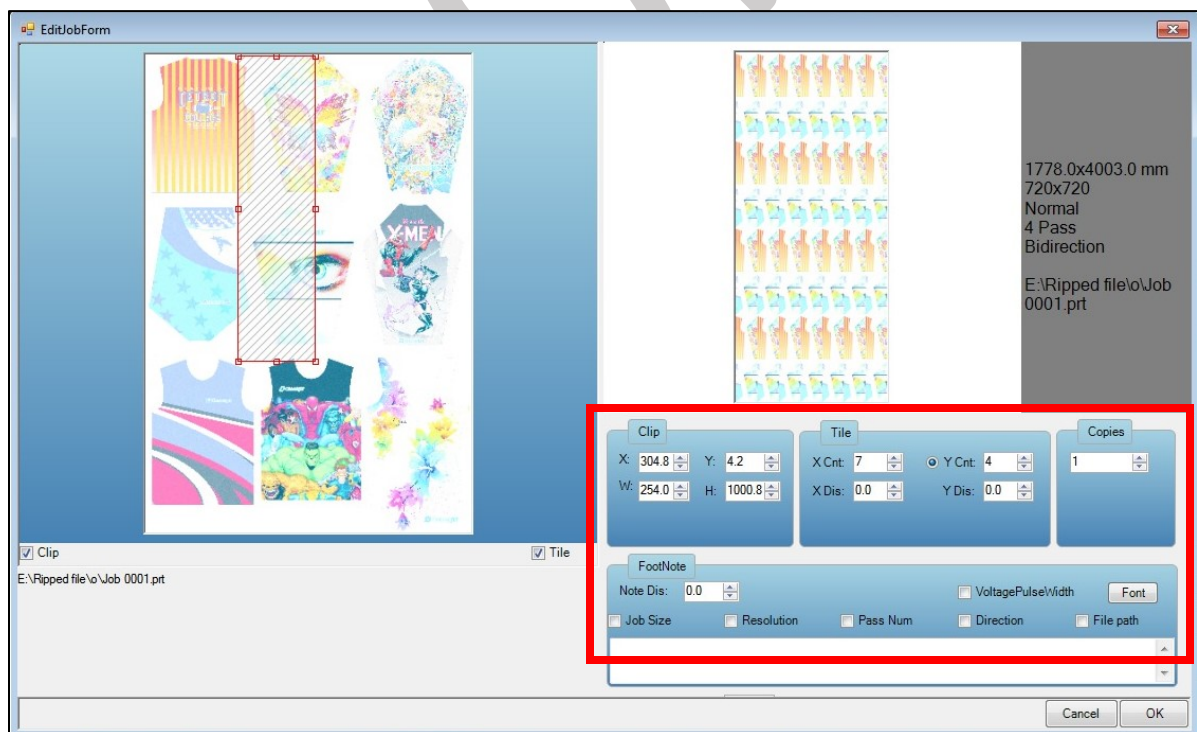

Fig 41: Displaying the Edit Job Form Window
**Step 5:** After making the desired changes, *click* on the **OK** button to apply the settings (Refer to Fig 41).